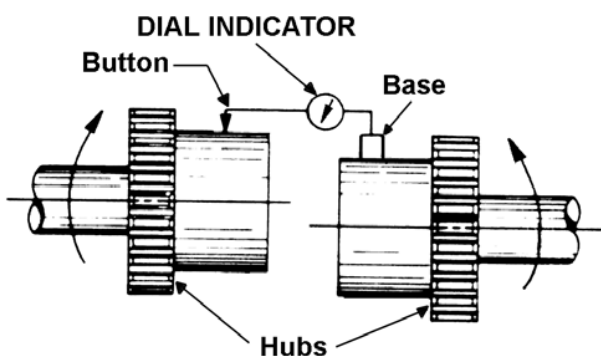

Figure 3-2: Offset Alignment Check
1. Clamp base of indicator to hub of unit's shaft and position its indicator button on machined outer diameter of other hub, as shown in Figure 3-2.